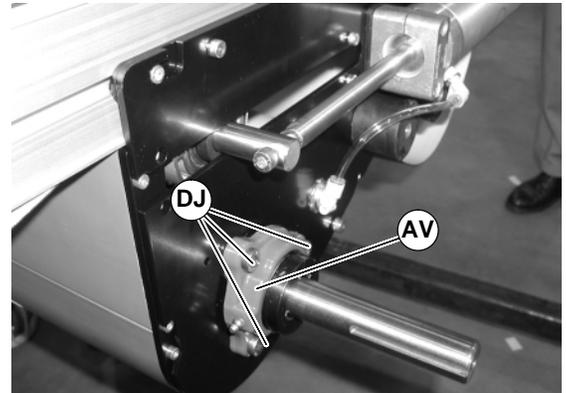

Figure 105
4. Remove the three (3) mounting screws (DJ of Figure 105).
5. Remove and replace bearing housing assembly (AV of Figure 105).